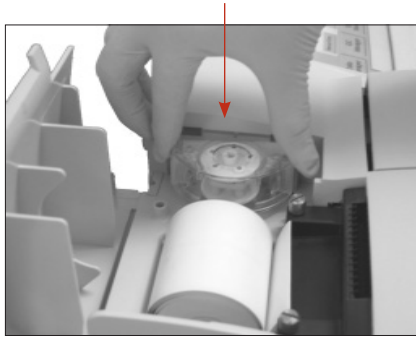

Figure I-3: Install the new pump cartridge
- With the nipples facing down, hold the new peristaltic pump cartridge next to the pump motor. Turn the motor shaft by hand so it aligns with the key-way of the pump spool. Then, align the pump cartridge with the motor shaft and push the cartridge down firmly until it is fully seated on the housing (Figure I-3).